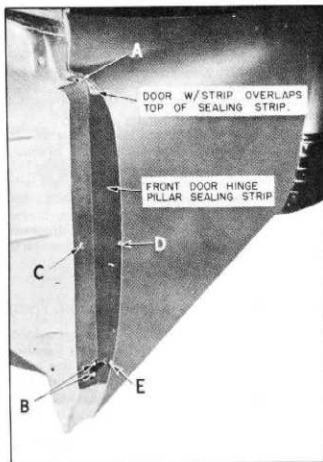

Fig. 10—Hinge Pillar Sealing Strip
2. Pry out the rosebud fastener "A" (fig. 10).
2. Cement a new sealing strip to the door hinge pillar using 3-M Weatherstrip Adhesive. Position the sealing strip by aligning the hole in the sealing strip with the fastener stud "E" (fig. 10) and aligning the corresponding holes in the sealing strip and door pillar fastener "D". The sealing strip is cemented over the door bottom weatherstrip.